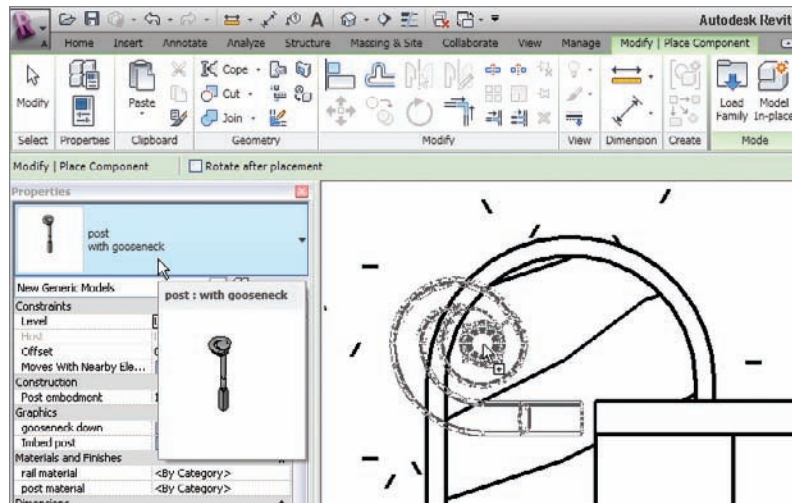

FIGURE 10.72 Placing the post with the gooseneck
1. In the Project Browser, go to the Level 1 floor plan and zoom in on the landing area, as shown in Figure 10.72.
4. As you are placing the post, press the spacebar twice to flip it into the correct orientation, as shown in Figure 10.72.
5. Place it on the landing slightly away from the stair railing, as shown in Figure 10.72.